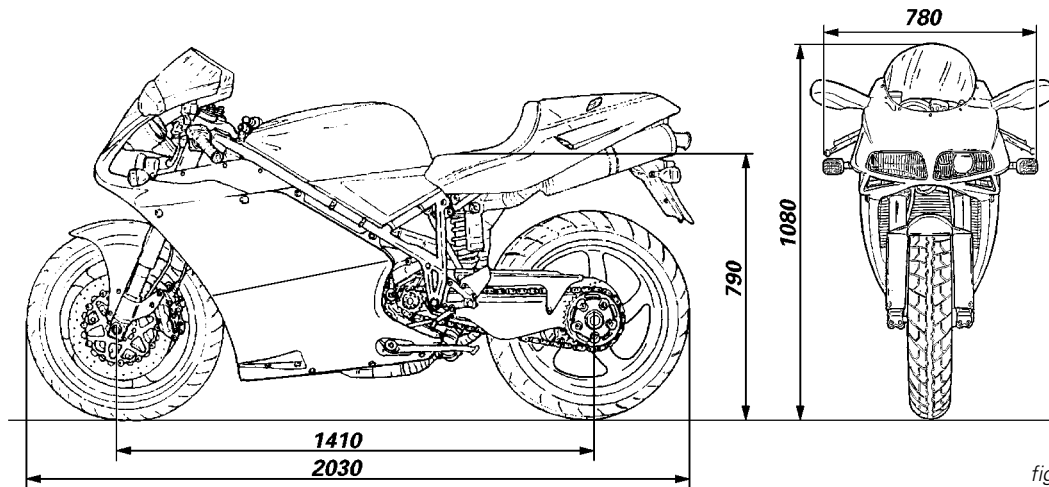

fig. 43
**Overall dimensions** (mm) (fig. 43)